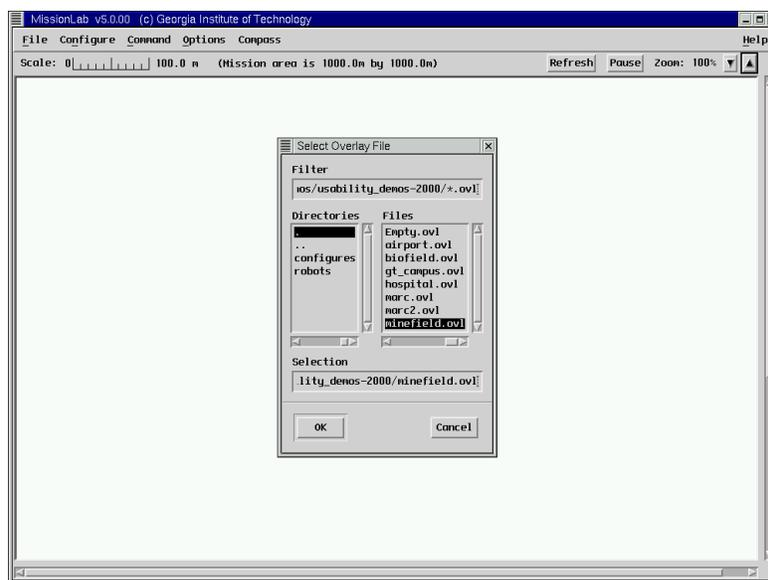

Figure 68: *mlab* asking for an overlay
- At this point, `mlab` should be asking you to select an overlay (Figure 68). Choose “`minefield.ovl`”.